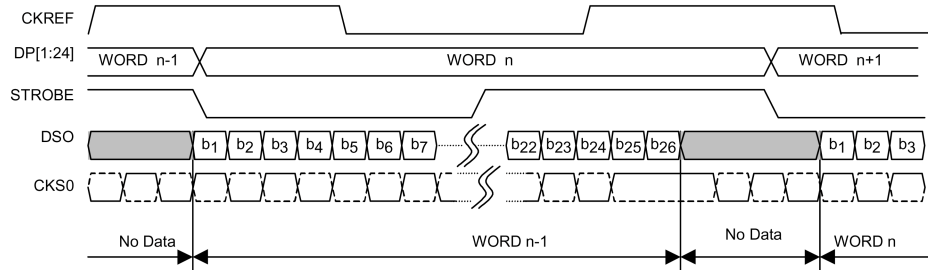

FIGURE 2. Serializer Timing Diagram (CKREF does not equal STROBE)
**Serializer Operation: (Figure 2)